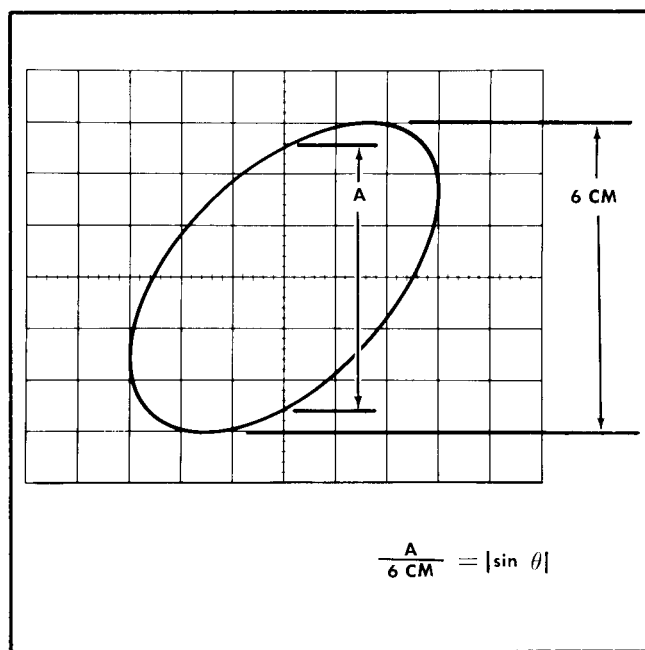

Fig. 4-1. X-Y method of calculating phase difference ( $\theta$ ) of two sine waves.
8. If the input signals are sine waves which produce an ellipse, Fig. 4-1 shows a method of calculating the phase difference between the two signals. If the display appears as a diagonal straight line, the two sine waves are either in